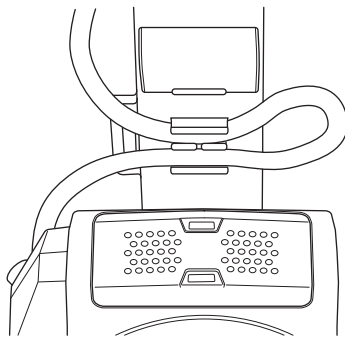

Fig. 3
**4** Attach the LCD monitor unit cable to the LCD monitor cable clamp. (Fig. 3)